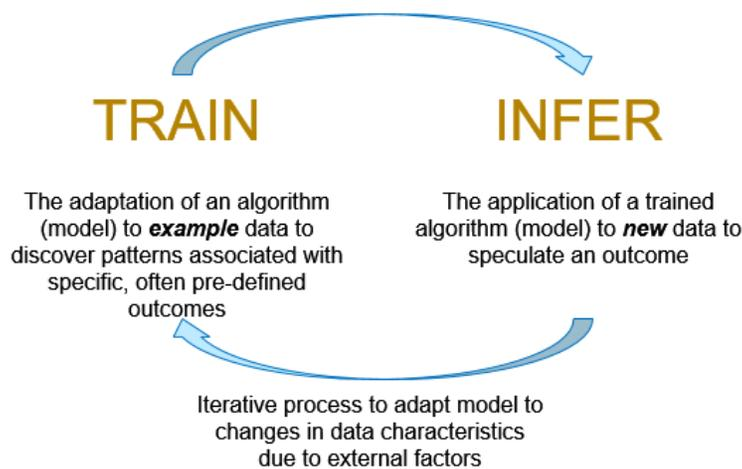

Figure 1. Deep Learning phases.
The deployment of a Deep Learning (DL) algorithm proceeds in two stages: training and inference. As illustrated in Figure 1, training configures the parameters of a neural network model implementing an algorithm via a learning process based on a large dataset over several training iterations and loss function [1]; the larger the dataset, the higher the accuracy of the model. The output of this stage, the learned model, is then used in the inference stage to speculate on new data.